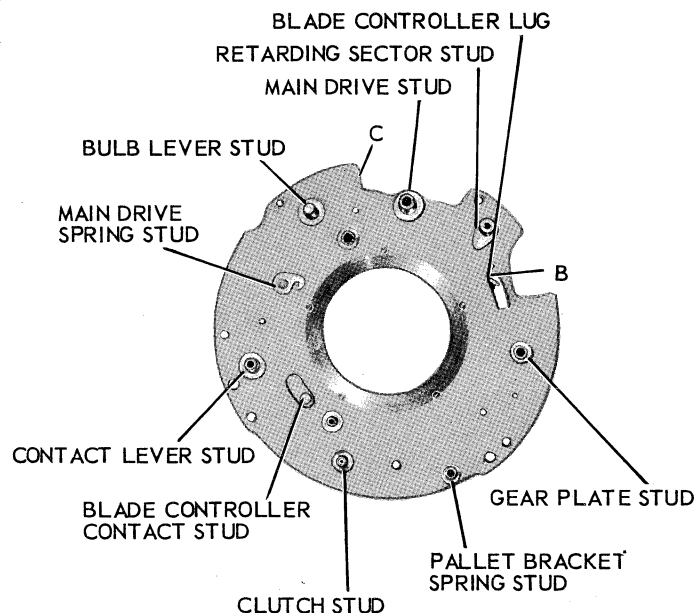

Figure 32
6. Unhook the MAIN DRIVE SPRING from the MAIN DRIVE SPRING STUD, figure 32.
1. Apply a thin film of grease (Texaco Uni-temp-RCX169 Grease) to the MAIN DRIVE STUD, figure 32, to the latch at the point of contact with the latch spring, and to the latch where it contacts the RETARDING SECTOR STUD. This area of the latch should be burnished before applying the lubricant.
2. Contact lever complete on the CONTACT LEVER STUD, figure 32. The end of the contact lever spring should face in, toward the shutter blades. Turn the long end of the spring in a clockwise direction to place it in tension, and rest it in the groove in the case. Form the short end of the spring around the vertical part of the contact lever tail.
2. Contact lever complete on the CONTACT LEVER STUD, figure 32. The ends of the contact lever spring should face in, toward the shutter blades. Turn the long end of the spring in a clockwise direction to place it in tension, and rest it in the groove in the case. Form the short end of the spring around the vertical part of the contact lever tail.
11. Cock and release the shutter and at the same time retard its opening action by placing one finger against the lever on the main drive assembly. Observe whether the BLADE CONTROL-LEVER CONTACT STUD, figure 32, makes contact with the contact spring when the shutter blade opening approximates the f/16 diaphragm opening. If the stud does not touch the spring at this diaphragm opening, bend the end of the spring toward or away from the stud.
over the stud near the MAIN DRIVE STUD, figure 32, on the mechanism plate. Refer to figure 15 for positioning of the shutter blade.
6. Diaphragm retainer plate with wings assembled, with the long embossing on the back of the plate opposite the MAIN DRIVE STUD, figure 32. After the diaphragm retainer plate is secured, the shutter blades should operate freely.